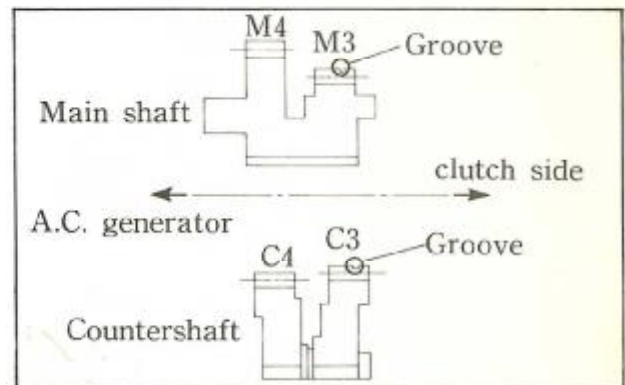

Fig. 3-37
4. The main shaft and countershaft 3rd gears have grooves cut in their periphery. Install the main shaft and countershaft 3rd and 4th gears as shown in Fig. 3-37.